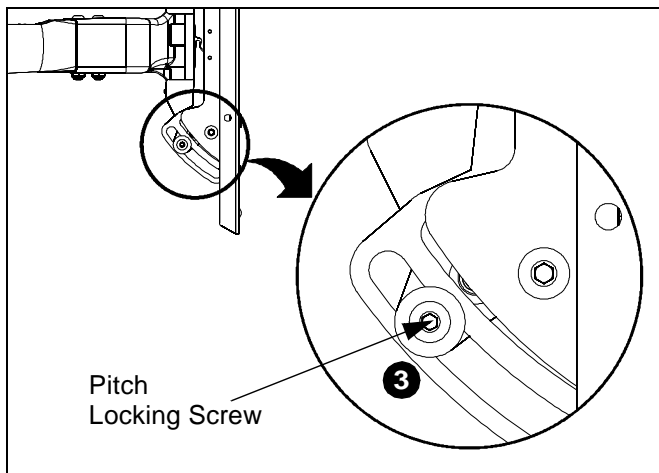

Figure 8
3. To lock the mount at the desired position, tighten the Pitch locking screw. (See Figure 8)